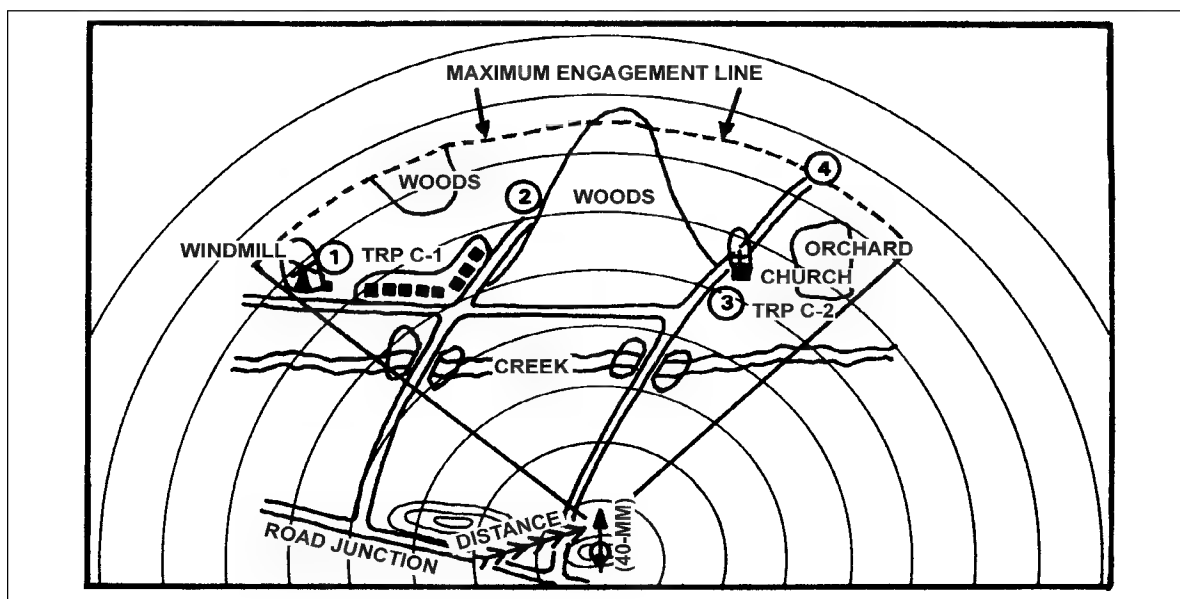
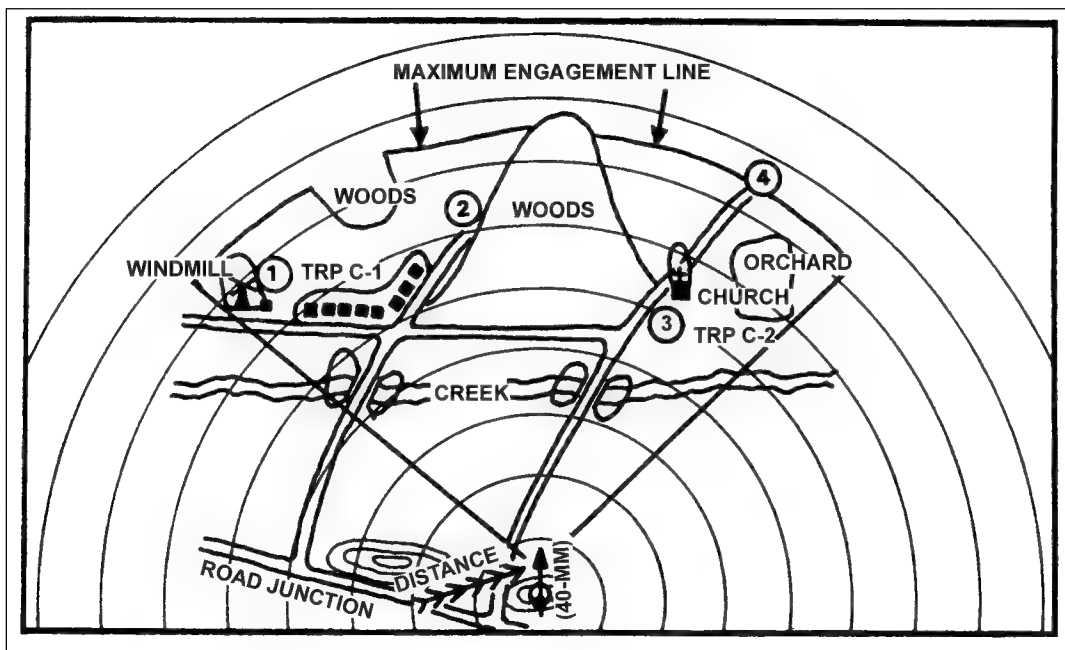

Figure 4-20. Maximum engagement line.
Figure 4-21. Limiting factors on maximum engagement line.
- (g) If no limiting factors exist, the maximum engagement line curves and joins the left and right sector-of-fire boundaries at the maximum engagement range (Figure 4-20). If limiting factors exist, draw the maximum engagement line in front of the limiting terrain features (Figure 4-21).